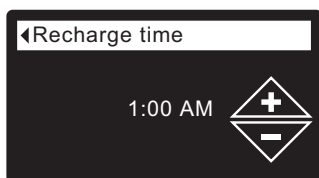

FIG. 44
5. Press the SELECT (O) button to display the Recharge time screen (See Figure 44).